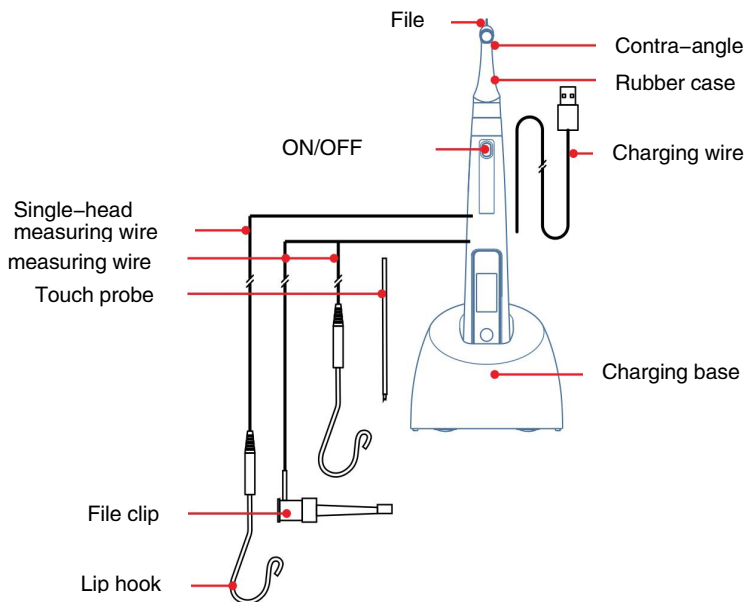

Fig. 3.1 Explanation of connecting the main unit with accessories
3.1 According to the Fig. 3.1, connecting the main unit with accessories